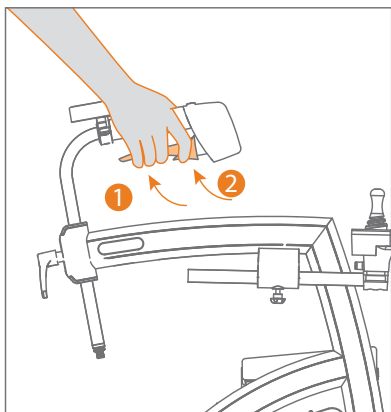

Figure 56: Apply the parking brakes.
Engage the freewheel mode only on flat and even surfaces, or apply the handbrakes if there's a risk that the Rollz Motion Electric² could move unexpectedly due to uneven terrain. To apply the parking brake, first squeeze the hand brakes (1) and simultaneously squeeze the parking brake levers (2) (**Figure 56**).